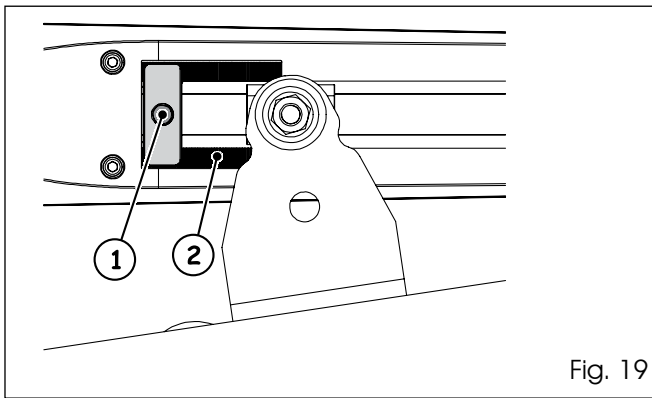

Fig. 19
3. Loosen the bolt, Fig. 19 ref. 1. The bolt does not need to be completely removed.
*The mechanical stop is coupled to a toothed section on the operator's body, Fig. 19 Ref. 2. In case of difficulties moving the stop check that the coupling is free. **Do not force it.***